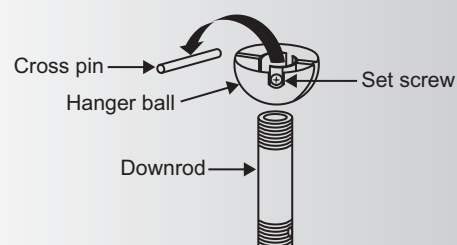

Fig. 8
Step 7. Remove the hanger ball from the downrod assembly by loosening the set screw, removing the cross pin and sliding the ball off the rod. (Fig. 8)